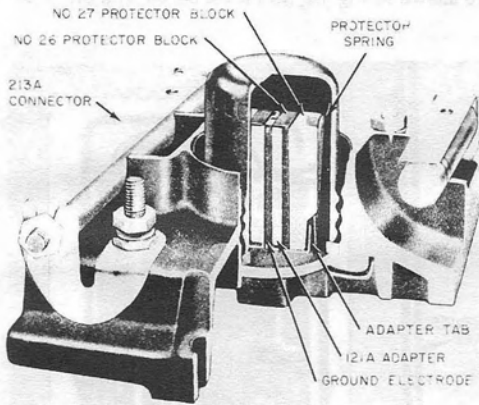

Fig. 78—Converted 98A (DA) Protector
(12) Tighten nuts on fuses (Fig. 78).